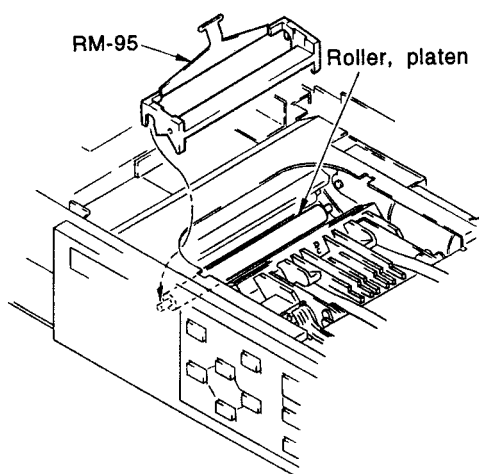

Fig. 3
4. Attach portion R of the tool to the shaft of a platen roller. (Fig. 3)